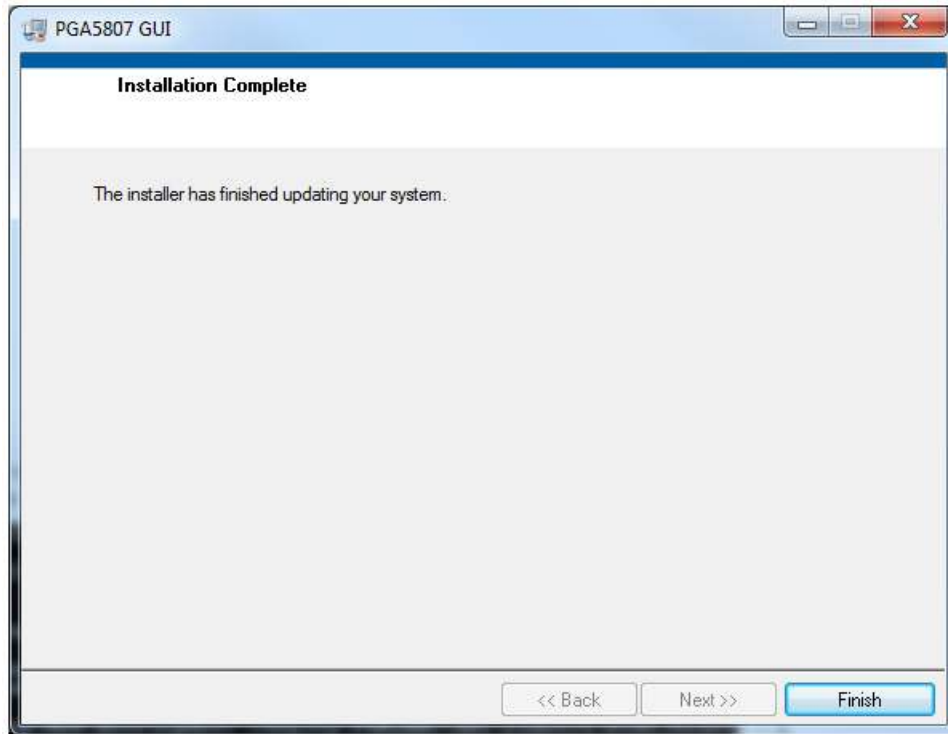

Figure 17. PGA5807 GUI Install (g)
- Upon completion of the installation, the window in Figure 17 appears. Press the *Finish* button to continue.